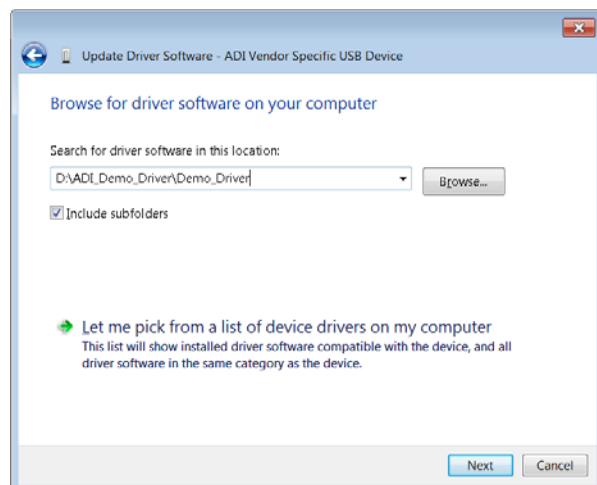

Figure 11. Browse for Driver Software Window
5. Choose the unzipped **D:\ADI\_Demo\_Driver\Demo\_Driver** folder and then click **Next** (see Figure 11).